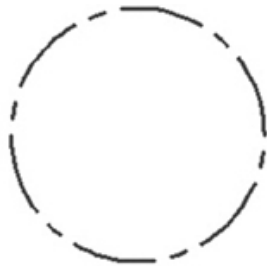

Figure 6-14
- 6 Set the **Center** layer current and draw a circle with a 1-inch radius anywhere on the drawing. The line will have the color and linetype of the **Center** layer. Your drawing should resemble Figure 6-14.